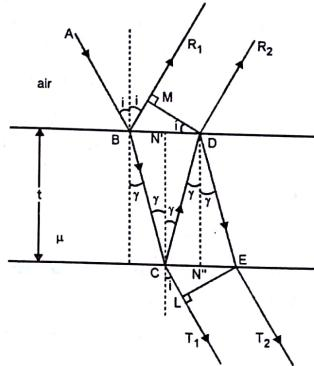

Fig. 1.3.1 : Interference in thin films
- Consider a ray AB of monochromatic light of wavelength λ from an extended source incident at B, on the upper surface of a parallel sided thin film of thickness t and refractive index μ as shown in Fig. 1.3.1.
From Fig. 1.3.1 we have $\text{BC} = \text{CD} = \frac{t}{\cos r}$
- The transmitted rays CT_1 and ET_2 are also derived from the same incident ray AB and hence are coherent. (Fig. 1.3.1)
- When they interfere, they can give the interference pattern in transmitted system. To find the path difference between CT_1 and ET_2 we drop EL perpendicular to CT_1 . See Fig. 1.3.1.